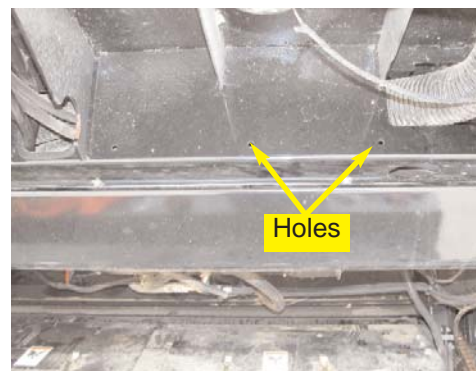
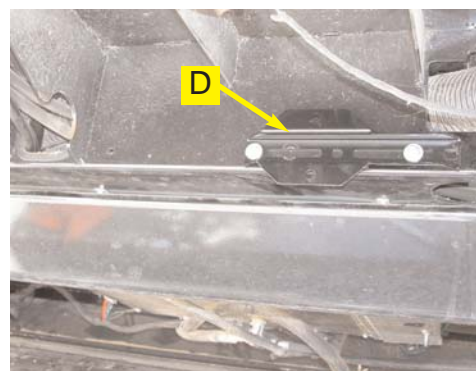

Figure 2a. Mounting location.
Figure 2b. Installed mounting bracket.
- a. Locate the two left-most holes in the brace under the cab. (Figure 2a)
- b. Use the provided hardware (F) to mount the bracket (D) to the brace as shown in Figure 2a. You may need to remove the blower tube in order to reach behind the brace to mount the bracket. (Figure 2b.)